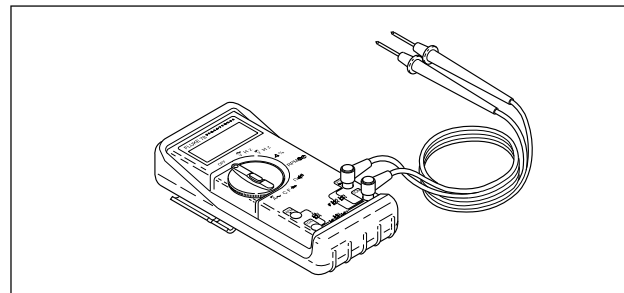

Figure 4-16. Fluke 78 Multimeter (DVOM)
1. See Figure 4-16. Connect DVOM to wiring harness between the suspect connections. When diagnosing ECM connections, a BREAKOUT BOX (Part No. HD-42682) may be used to simplify the procedure. See 4.7 BREAKOUT BOX.